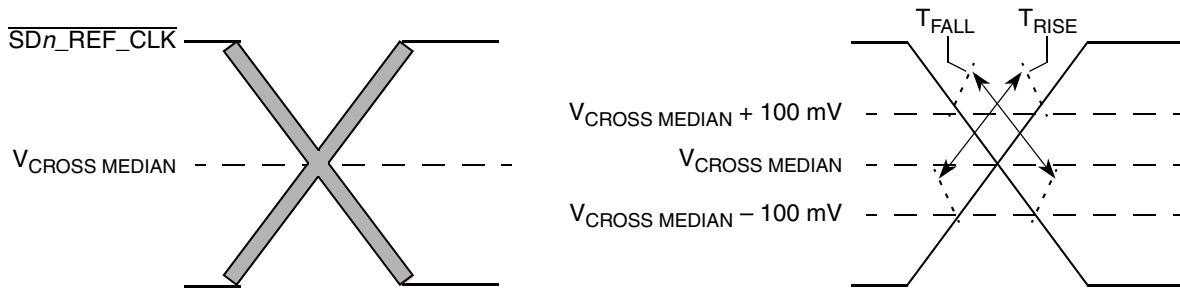

Figure 38. Single-Ended Measurement Points for Rise and Fall Time Matching
6. Matching applies to rising edge for SD_REF_CLK $\bar{n}$ and falling edge rate for $\overline{\text{SD_REF_CLK}}_n$. It is measured using a 200 mV window centered on the median cross point where SD_REF_CLK $\bar{n}$ rising meets $\overline{\text{SD_REF_CLK}}_n$ falling. The median cross point is used to calculate the voltage thresholds that the oscilloscope uses for the edge rate calculations. The rise edge rate of SD_REF_CLK $\bar{n}$ must be compared to the fall edge rate of $\overline{\text{SD_REF_CLK}}_n$, the maximum allowed difference should not exceed 20% of the slowest edge rate. See Figure 38.